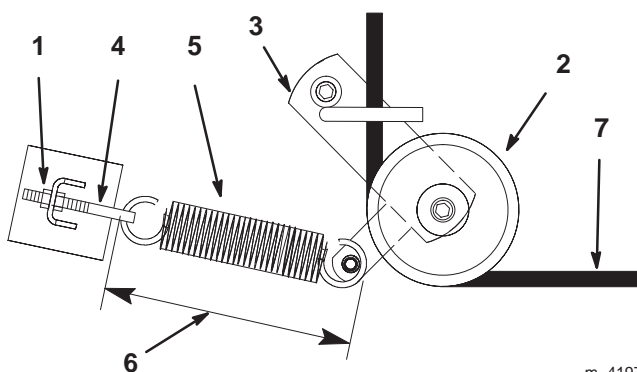

Figure 43
4. Loosen the outer nut on the spring eye bolt (Fig. 43) enough to allow removal of the belt.
6. Route the new belt through the idler arm (Fig. 43) and onto the other pulleys (Fig. 44).
7. Tighten the outer nut on the spring eye bolt (Fig. 43).
Note: Check the spring length. The spring should measure 9-3/8 in. \pm 1/8 in. (238 mm \pm 3 mm) when installed with the height-of-cut set at 1-1/2 in. (38 mm). Adjust it if it does not (Fig. 43).